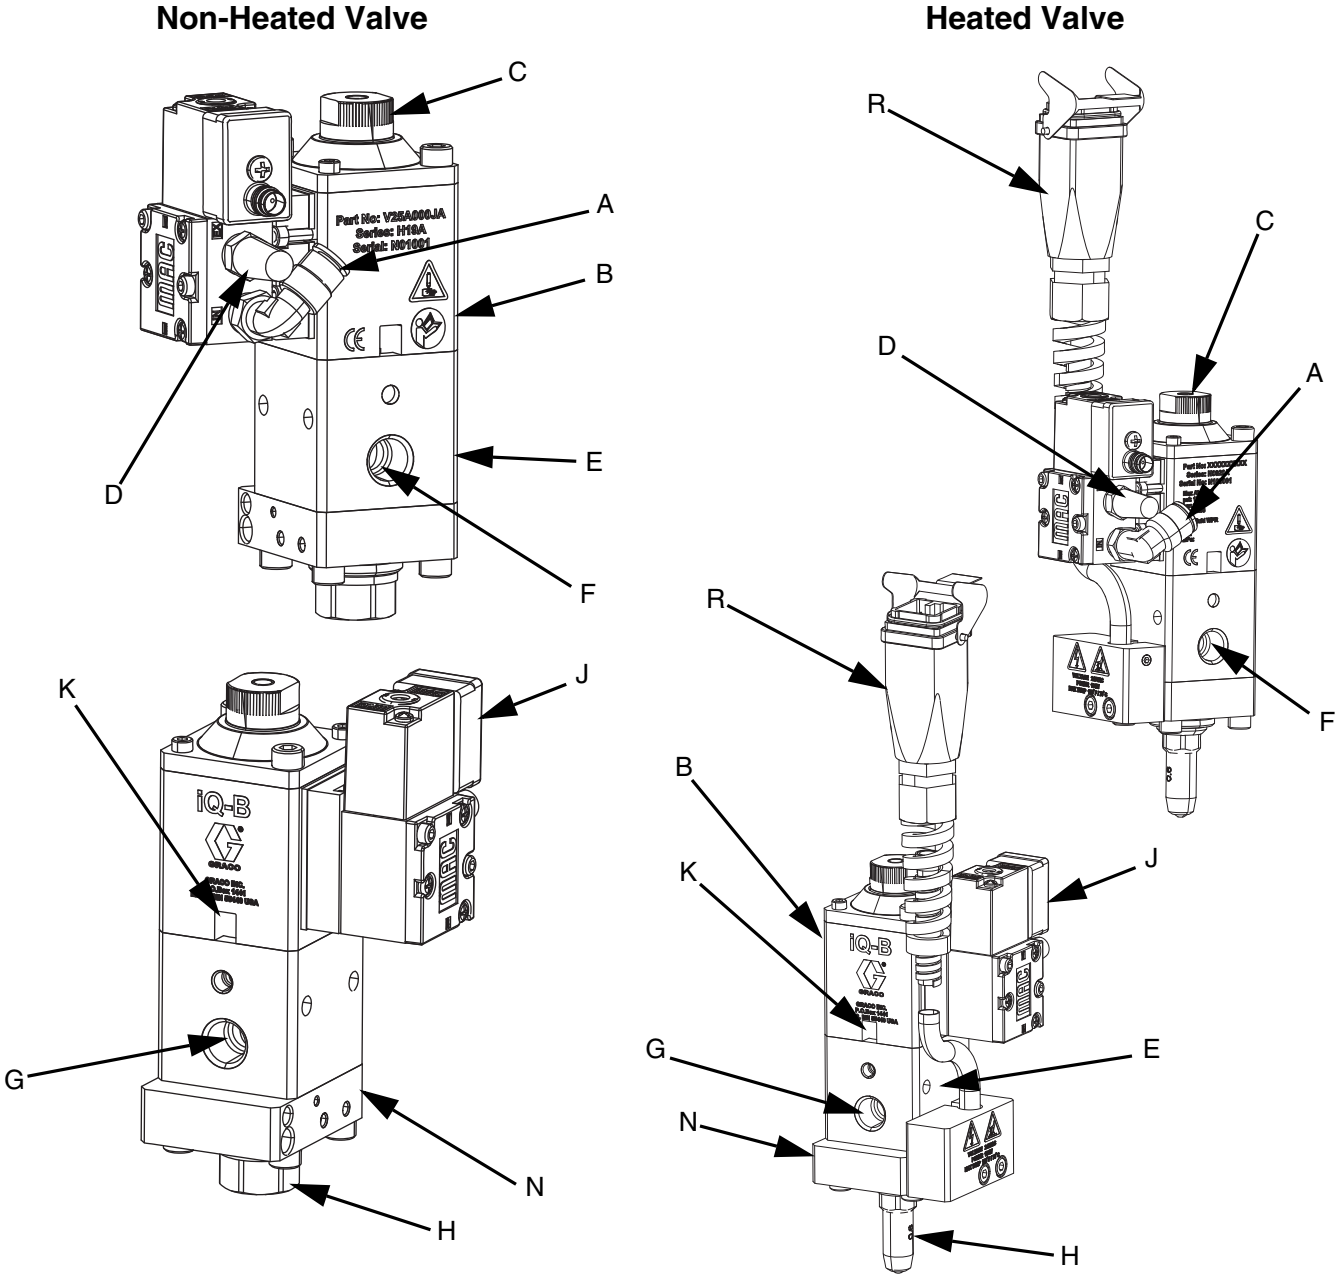

FIG. 1: Ball-Seat and Tip Seal Dispense Valve
- a. For valves with a Solenoid (J) mounted to the Air Section (B), connect the air supply tube to the Air Fitting (A). See FIG. 1 on page 7.